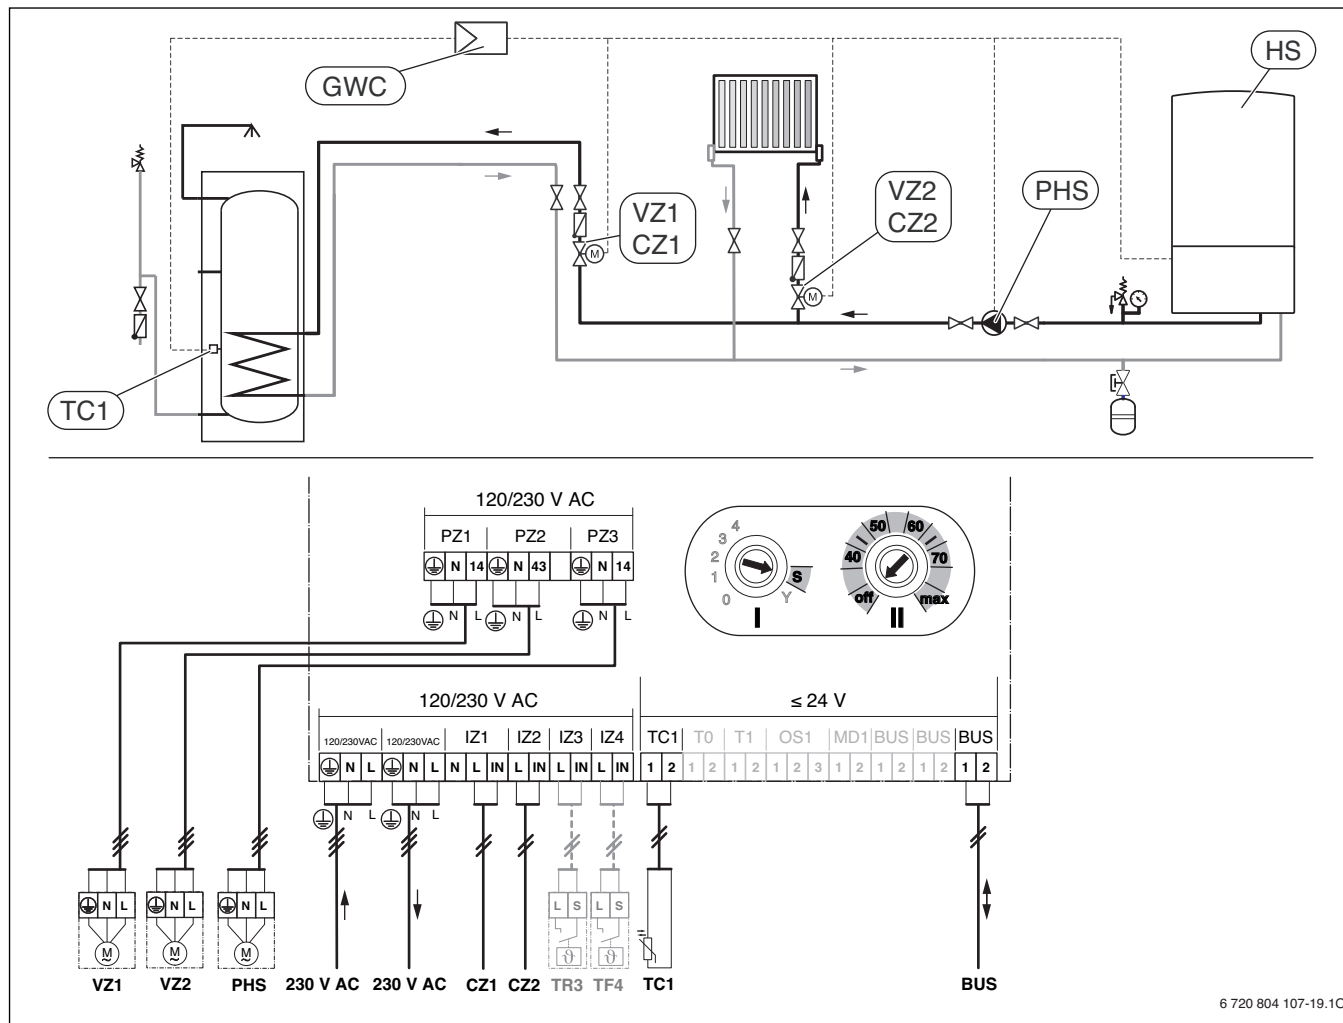

Fig. 21 Two-port valve system
- TR3 Room thermostat (Thermostat Room temperature); optional; not shown in fig. 21
- TF4 Frost thermostat (Thermostat Frost protection); optional; not shown in fig. 21